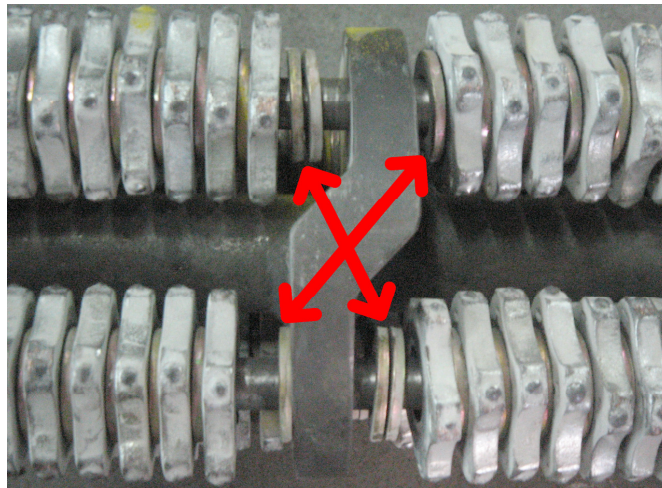

Figure 9
4. When replacing the blades, make sure the washers are arranged according to Figure 9.